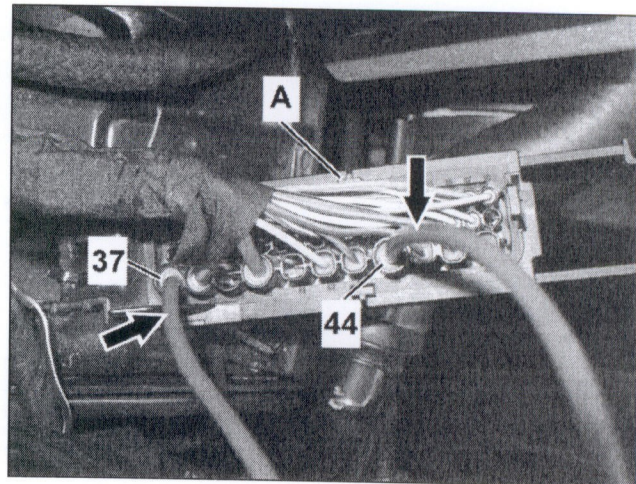

Figure 10
15. Remove ground wires (arrows, Figure 10) from SBC harness connector (A):
- Unpin SBC ground wire connectors (position 37 and 44, Figure 10) using cable release tool and remove from SBC connector housing (A) (Special Tools: W 000 589 13 99 30 and W 220 589 01 99 50).
16. Insert the new ground wiring harness (arrows Figure 10) into the SBC connector housing (A):